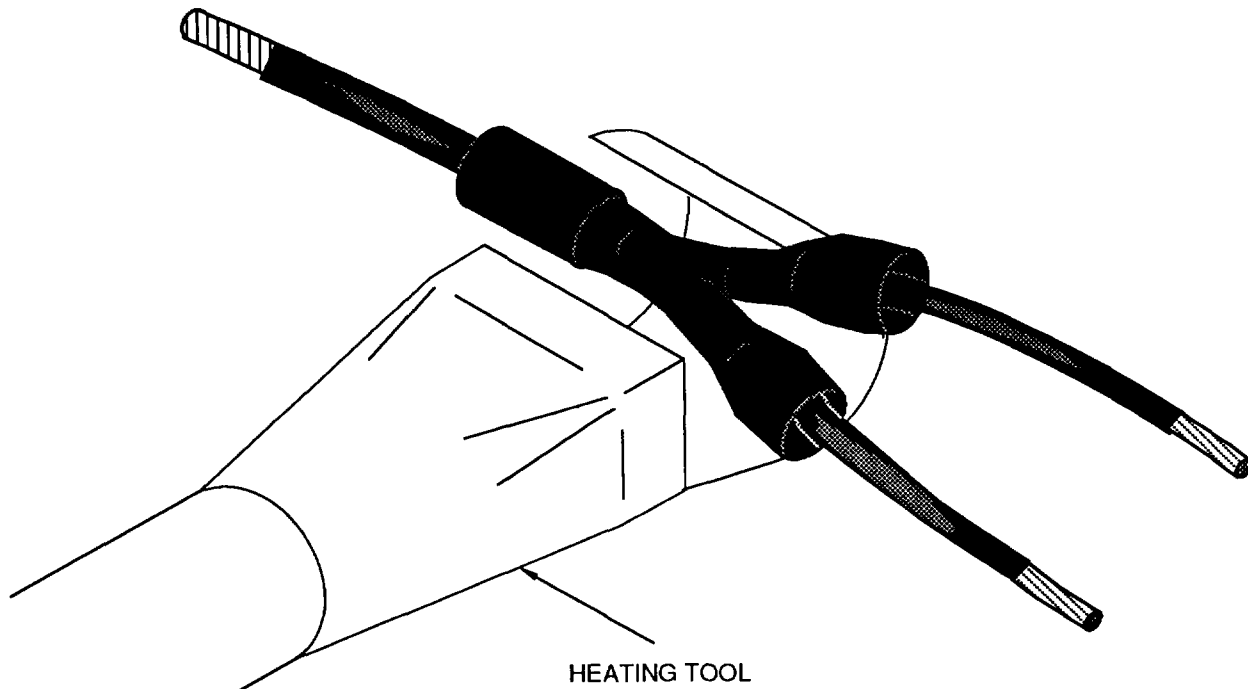

Figure 5. Transition Installation
e. Starting at center of transition and proceeding to each leg, completely shrink transition using heat gun with or without reflector (Figure 5)